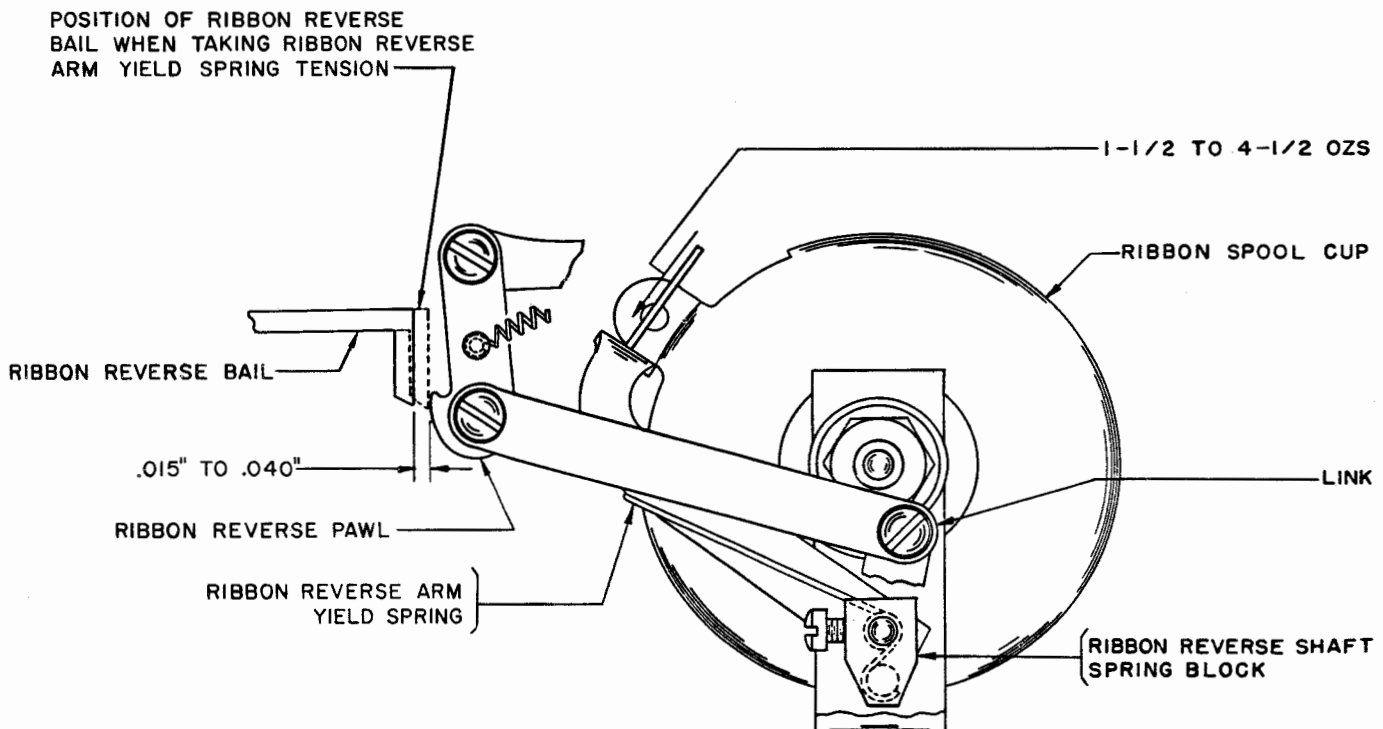

Figure 18
(b) On units equipped with a ribbon-reverse-arm yield-spring, there shall be a clearance as indicated in Figure 18 between both right and left ribbon-reverse pawls and the ribbon-reverse bail when the ribbon-reverse arms are resting against the ribbon-spool cups (unoperated position) and the ribbon-reverse bail is opposite the ribbon-reverse pawls.
2.28 Ribbon-reverse-arm Yield-spring (If So Equipped): With the ribbon-reverse bail positioned so that it will block the full travel of the ribbon-reverse arm, and with the ribbon-reverse pawl resting against the ribbon-reverse bail, it shall require a push as indicated in Figure 18 to start the ribbon-reverse arm moving.